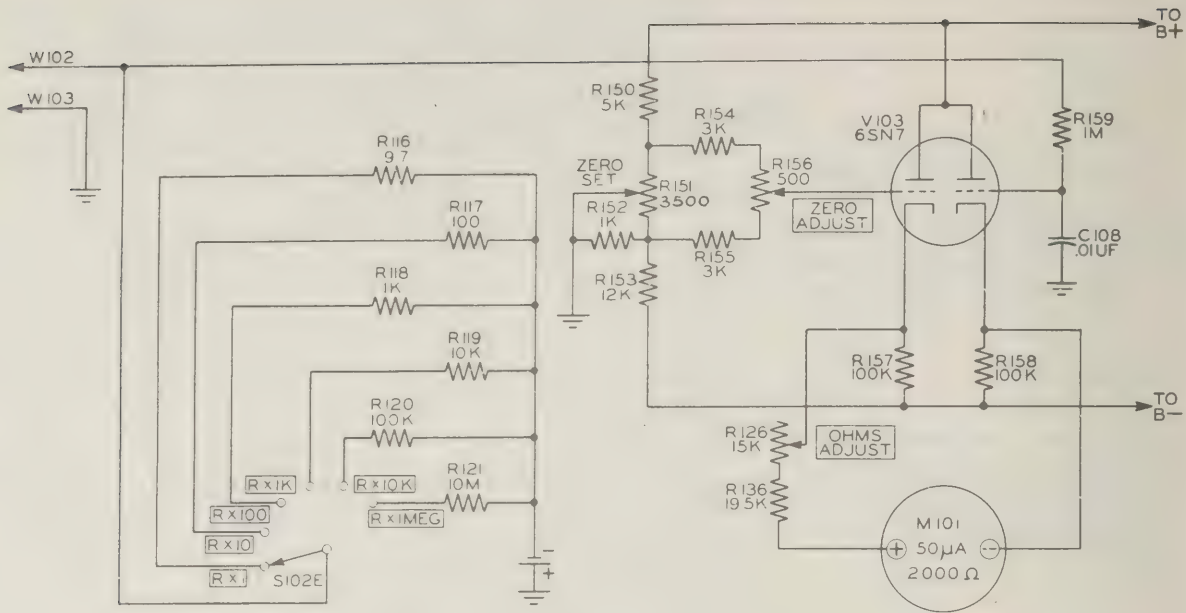

Figure 2-6. Ohmmeter Circuit.
e. OHMMETER CIRCUIT.—Resistance measurements are made with probes W-102 and W-103. When they are shorted together, the signal grid of tube V-103 is connected to ground potential, and no meter deflection occurs. When the probes are separated with infinite resistance, the voltage at the signal grid of the bridge tube is 1.5 volts negative with respect to ground, and meter M-101 will read full scale deflection. Figure 2-6 shows the portion of Multimeter ME-25B/U circuits which is used for resistance measurements. Battery BT-101 furnishes 1.5 volts. The OHMS ADJUST potentiometer, R-126, is a meter sensitivity adjustment which compensates for aging of the battery. The setting of range switch S-102 determines which of the range resistors is in the circuit; these are resistors R-116, R-117, R-118, R-119, R-120, and R-121. The range resistor and the battery are in series with the test leads. When any external resistance is contacted with the test probes, this resistance is in series with the range resistance. Part of the battery voltage